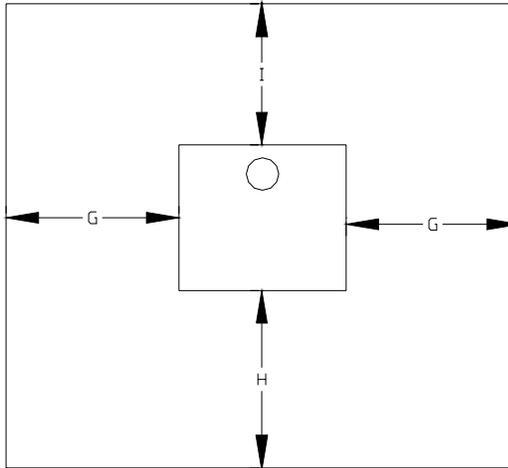

FIGURE 8: FLOOR PROTECTOR DIMENSIONS
1. All Country Flame freestanding catalytic wood stoves require a listed floor protector that is noncombustible. Country Flame catalytic stoves were tested with a listed floor protection that had a thermal conductivity of $K = 0.85$ BTU-inch per hour per square foot per degree Fahrenheit and that was 3/8" thick (9.5mm) non-asbestos millboard. Refer to FIGURE 8 and TABLE 7 for floor protector information.